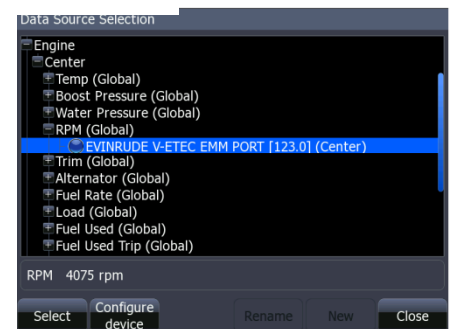

Figure 3.A
- a. Press the Menu key twice to access the system menu, select the Network menu then Data Sources and press Enter. (Figure 3.A)